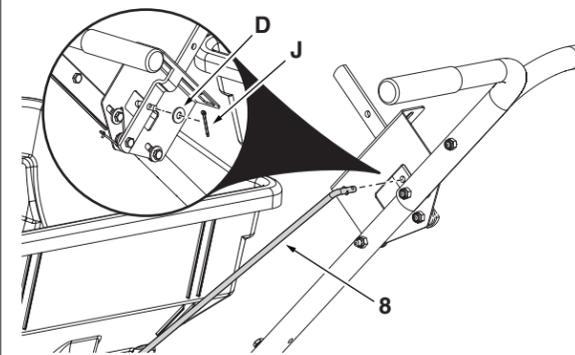

Figure 17
STEP 17: (SEE FIGURE 17)
- Attach the other end of the control rod (8) through the hole in the control arm. Place a 5/16" washer (D) over the end of the control rod and secure with a cotter pin (J) by bending the ends out.